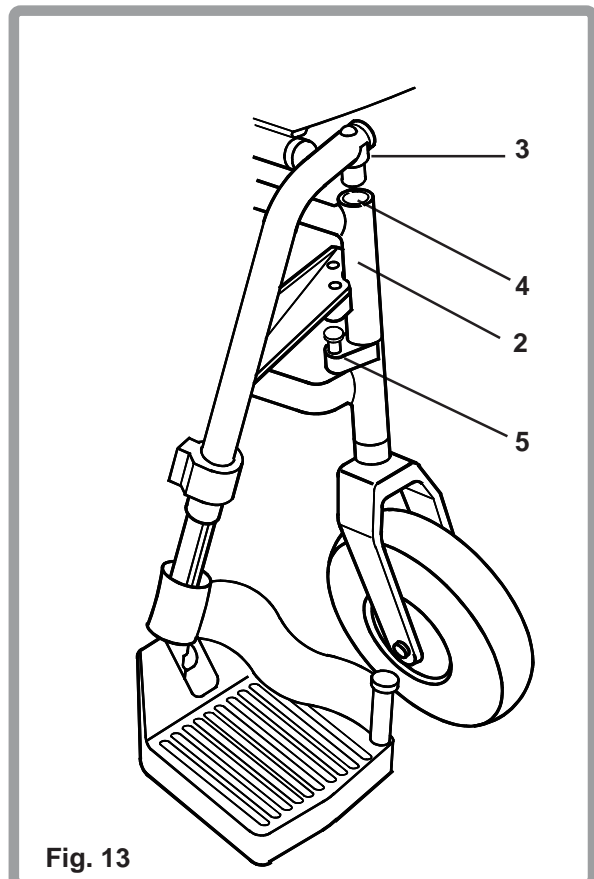

Fig. 13
To replace the footrest (Fig. 13), place the swingaway pivot saddle (3) into the receiver (4) on the frame (2) with the footrest facing outward from the frame. Rotate the footrest inward until it locks into place on the locking stud (5).